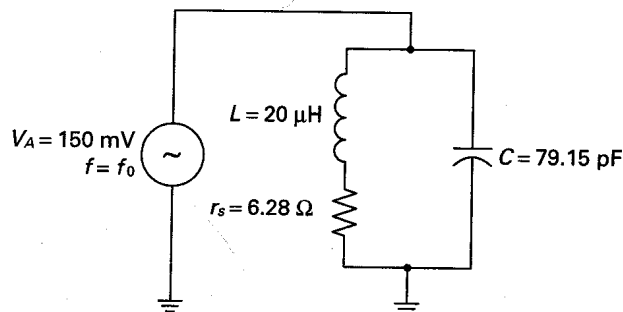

Fig. 1-8
**EXAMPLE 1.5.** In Fig. 1-8, calculate the following:  $f_0$ ,  $X_L$ ,  $X_C$ ,  $I_L$ ,  $I_C$ ,  $Q$ ,  $Z_{\text{tank}}$ , and  $I_T$ .
**EXAMPLE 1.6.** In Fig. 1-8, calculate BW,  $f_1$ , and  $f_2$ . Recall that  $f_0 = 4$  MHz and  $Q = 80$ .